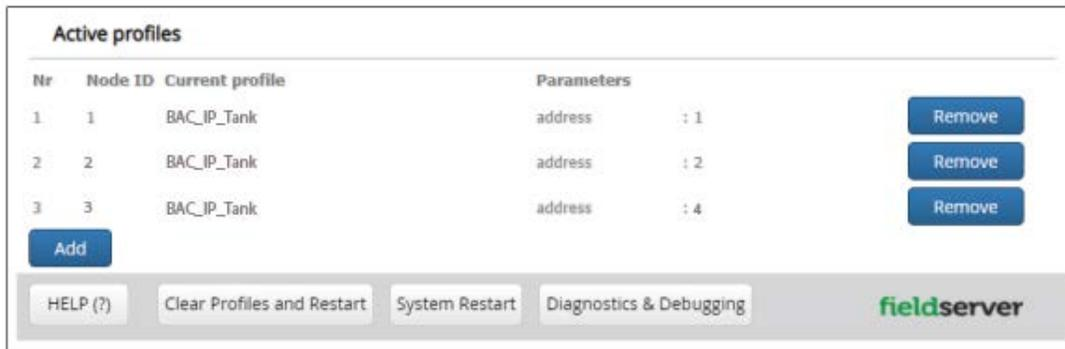

Figure 17. Web Configurator Showing no Active Profiles
- Completed additions are listed under “Active profiles” as shown in Figure 17.